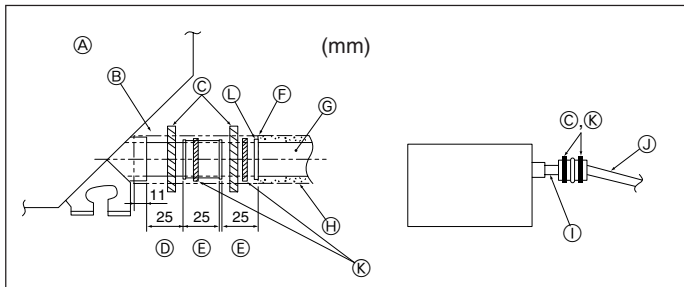

Fig. 6-2
- ⑨ O. D. ø32 PVC TUBE
- ⑩ Make it as large as possible
- ⑪ Indoor unit
- ⑫ Make the piping size large for grouped piping.
- ⑬ Downward slope (1/100 or more)
- ⑭ O. D. ø38 PVC TUBE for grouped piping.
- ⑮ (9 mm or more insulation)
- ⑯ Up to 85 cm
1. Connect the drain socket (supplied with the unit) to the drain port. (Fig. 6-2) (Affix the tube using PVC adhesive then secure it with a band.)